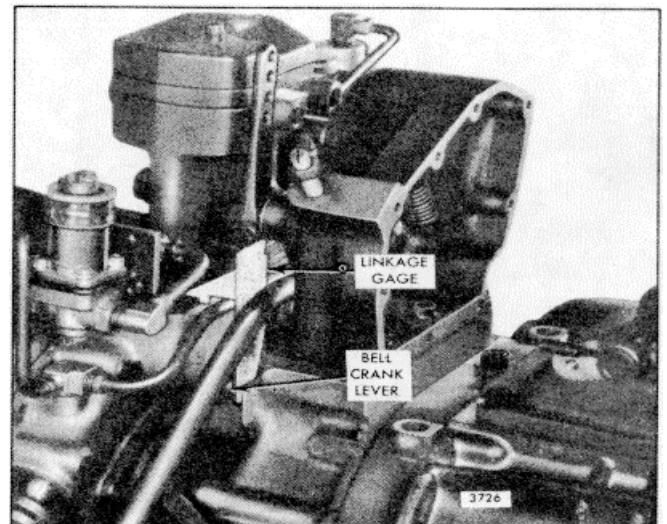

Fig. 4. - Linkage Gage in Position
4. Place linkage gage J 21351 in position so the pin in the gage enters the hole in the bell crank lever and the tangs on each side of the gage rest on top of the governor drive housing cover (Fig. 4). The gage holds the linkage in the full-fuel position while the injector racks are being adjusted.